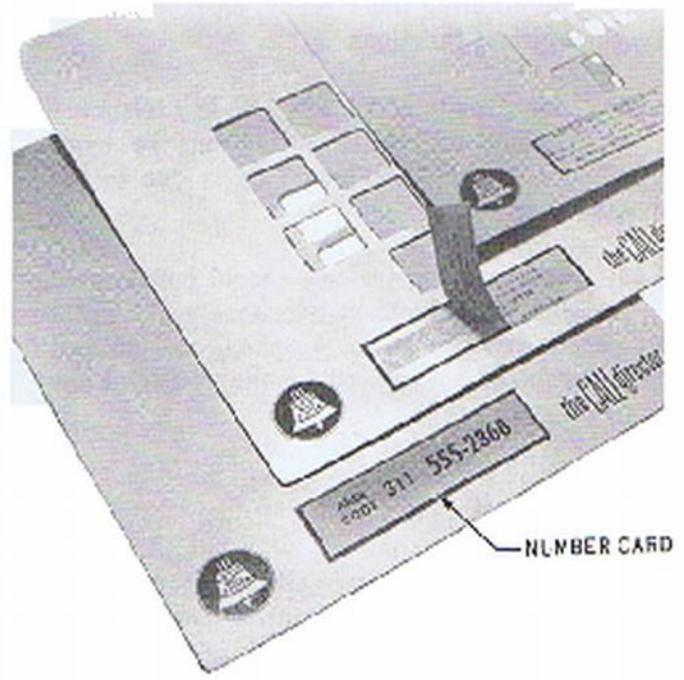

Fig. 9 – Colored Mats for Call Director
4.02 Designation strips and instruction pamphlets are shipped with each set. The sets are also furnished with two blocking rings and five colored mats (Fig. 9).